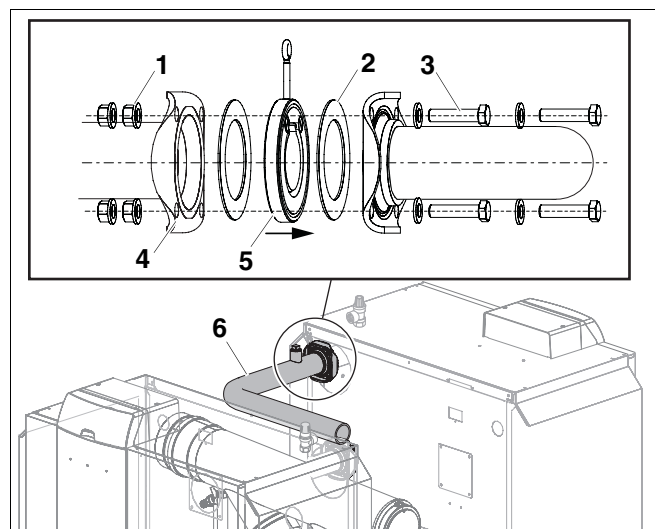

Fig. 5 Fitting the flow connection to the first boiler
- The check valve (Fig. 5, **Item 5**) remains fitted to the flow according to the flow direction.
- Place gasket (Fig. 5, **Item 2**) on the check valve.
- Screw flow piece flange (Fig. 5, **Item 6**) onto the flow flange (Fig. 5, **Item 4**) on the boiler, using four bolts (Fig. 5, **Item 3**) and nuts (Fig. 5, **Item 1**).